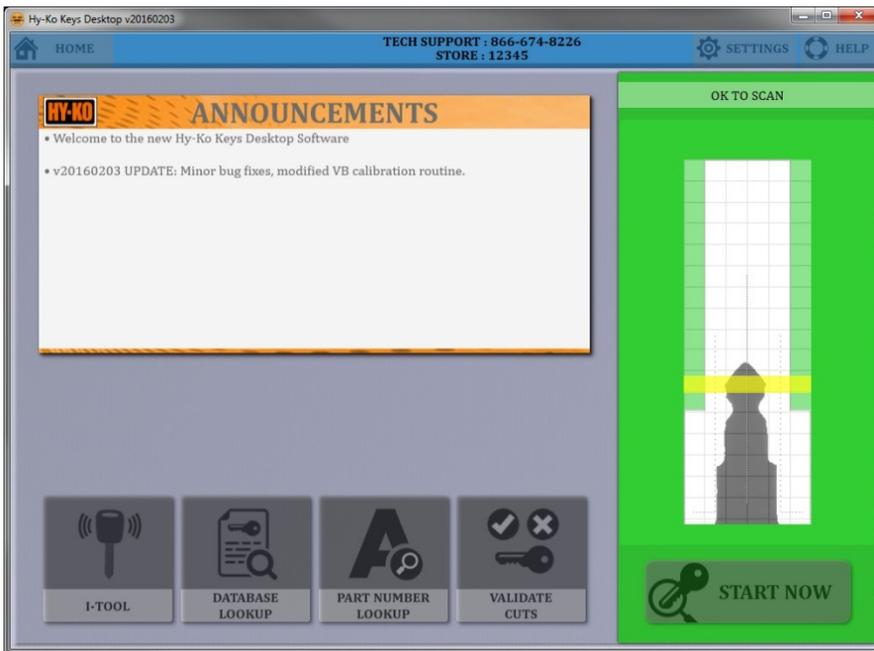

fig. 47
- Click **'START NOW'**. The Vision Box will begin the scanning process of the key (see fig. 47). Do not touch the key at this time.